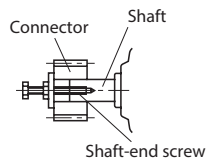

Figure 5-1
- Shrinkage-fit or shaft-end screw fit (see Figure 5-1) is recommended.